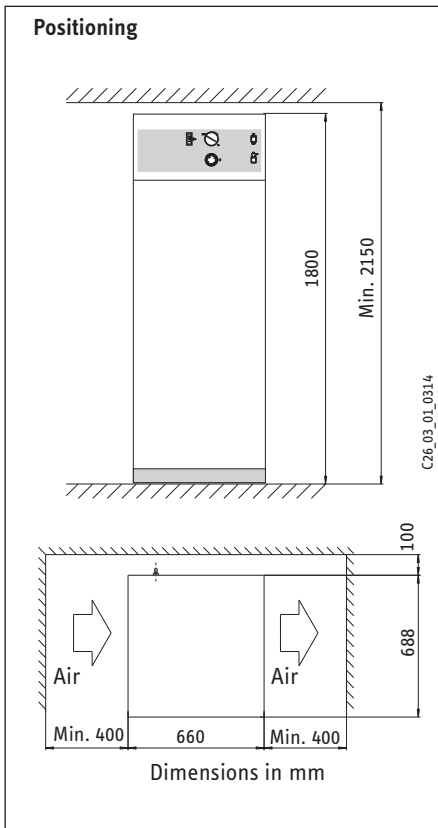

Fig. 4
- Never restrict the ambience around the WWK 300 through walls or ceilings closer than shown in Fig. 4.